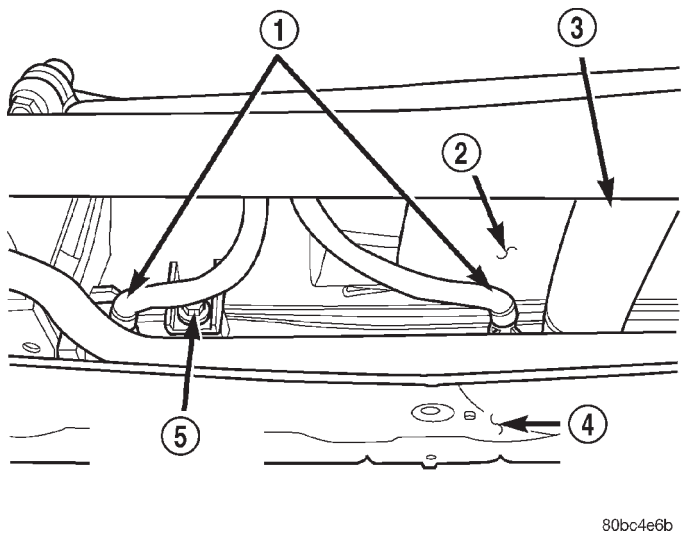

Fig. 6 Transmission Fluid Cooler Lines
- (4) Open the cooling system vent located on top of the radiator.
- (5) Raise the vehicle on the hoist
- (6) Drain the cooling system. Refer to Group 7, Cooling System for the procedure.
- (7) Remove the transmission fluid cooler lines from the radiator (Fig. 6).
- (8) Remove the lower radiator hose from the radiator (Fig. 6).
- (9) Remove the lower fan shroud retaining bolts (Fig. 6).